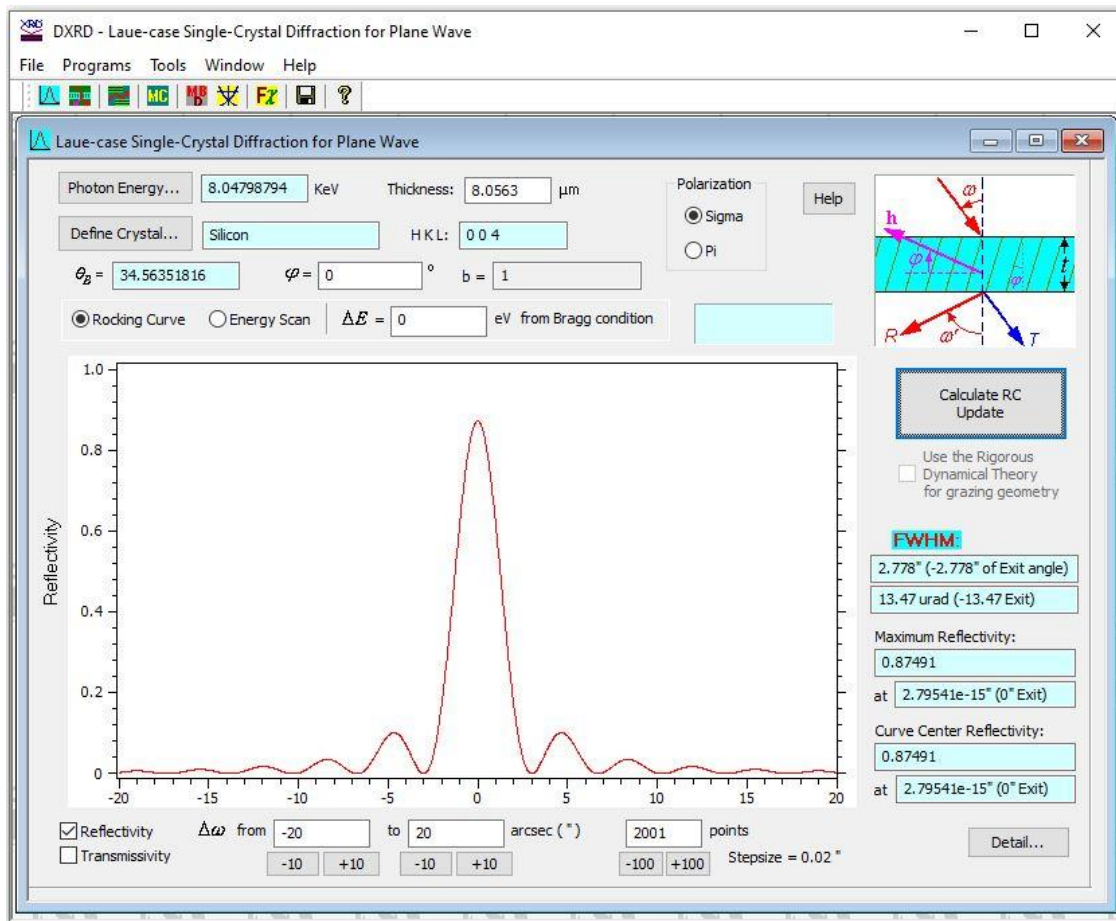

Figure A2. The Laue-case Diffraction program.
This program is similar to the above Bragg-case program. The major difference is that the “**Incident Angle ω** ” and the “**Exit angle ω'** ” are defined differently with respect to the Crystal Surface, see Figure A2. Also see the definition of the **Asymmetric Angle φ** . The crystal thickness for the Laue case must always be finite (> 0 , NOT -1). The Reflectivity (R) Curve for the Laue cases show oscillation fringes in most cases. In particular, thick crystals have rapid reflectivity oscillation. For a constant incidence angle, the reflectivity also changes periodically with crystal thickness, which is called the “**Pendellösung**” phenomenon. The periodicity is called the “**Pendellösung distance**”, denoted by $\tau(\Delta\omega)$. When the